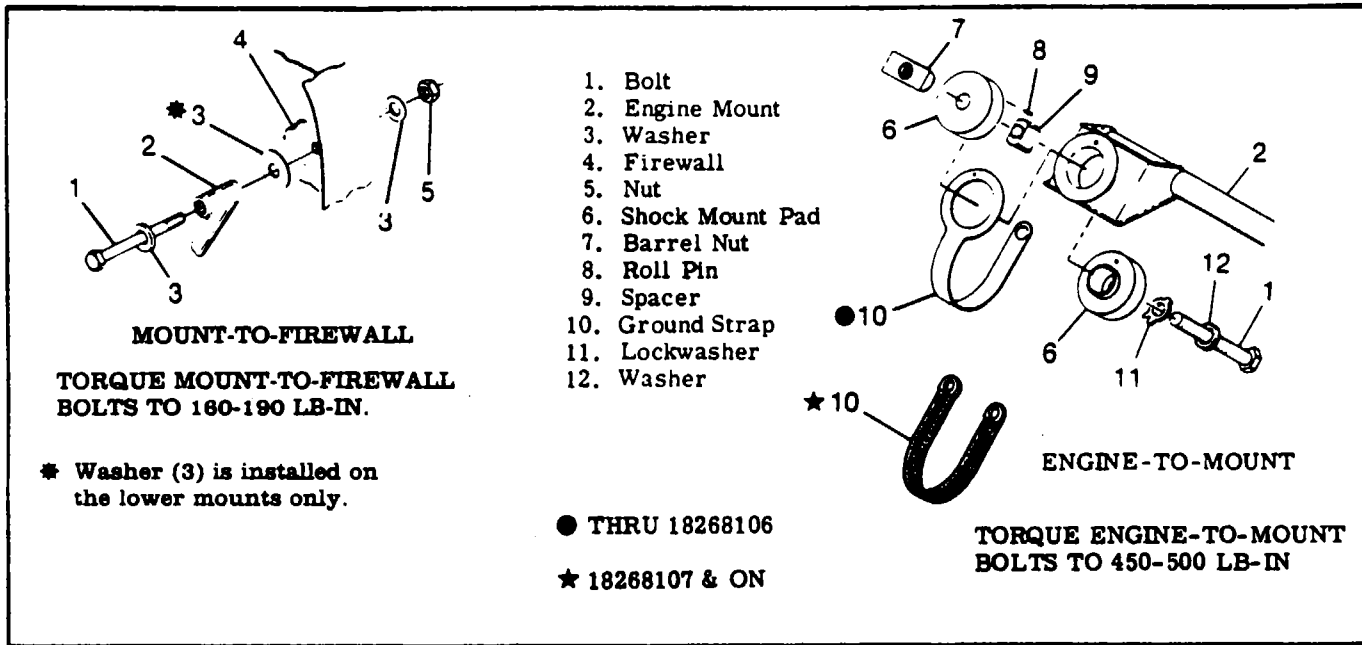

Figure 11-2. Engine Mount Details
b. Install engine shock-mount pads and bonding straps as illustrated in figure 11-2.
11-31. **ENGINE MOUNT.** (See figure 11-2.)
11-36. **ENGINE SHOCK-MOUNT PADS.** (See figure 11-2.) The bonded rubber and metal shock-mounts are designed to reduce transmission of engine vibrations to the airframe. The rubber pads should be wiped clean with a clean dry cloth.